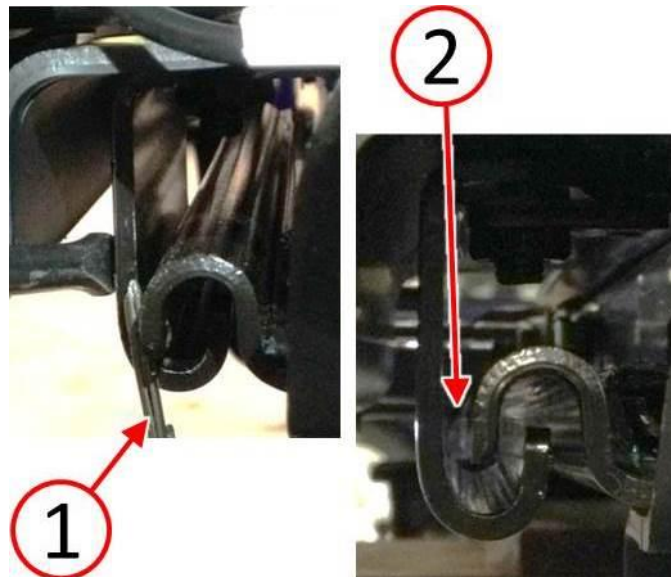

Fig. 3 Adjust 60 Percent J-Rail For Clearance
9. If the seat track J-rail rear lower edge is touching, use a suitable tool (1) to reposition the seat track so that a 1.5 mm (0.06 in.) gap (2) is present between the J-rails (Fig. 3).